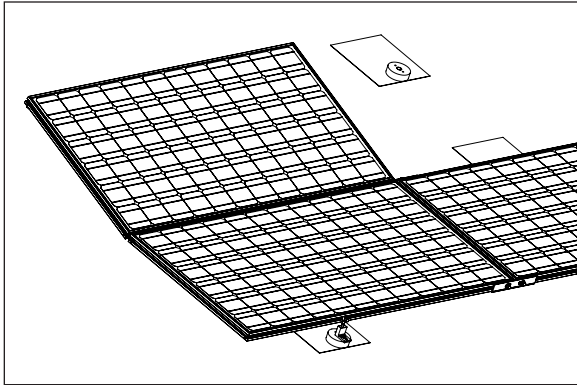
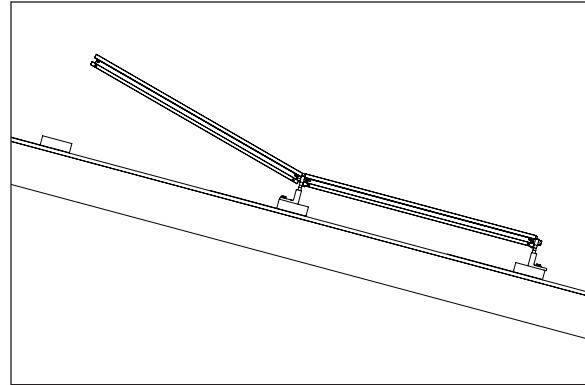

Figure 5.10C
Figure 5.10D
2. Lower the Module grooves onto the Zep Tongues and rotate downward, applying pressure toward the tongues when the Modules reach an angle of approximately 15 degrees from the roof (Figure 5.10C and Figure 5.10D).